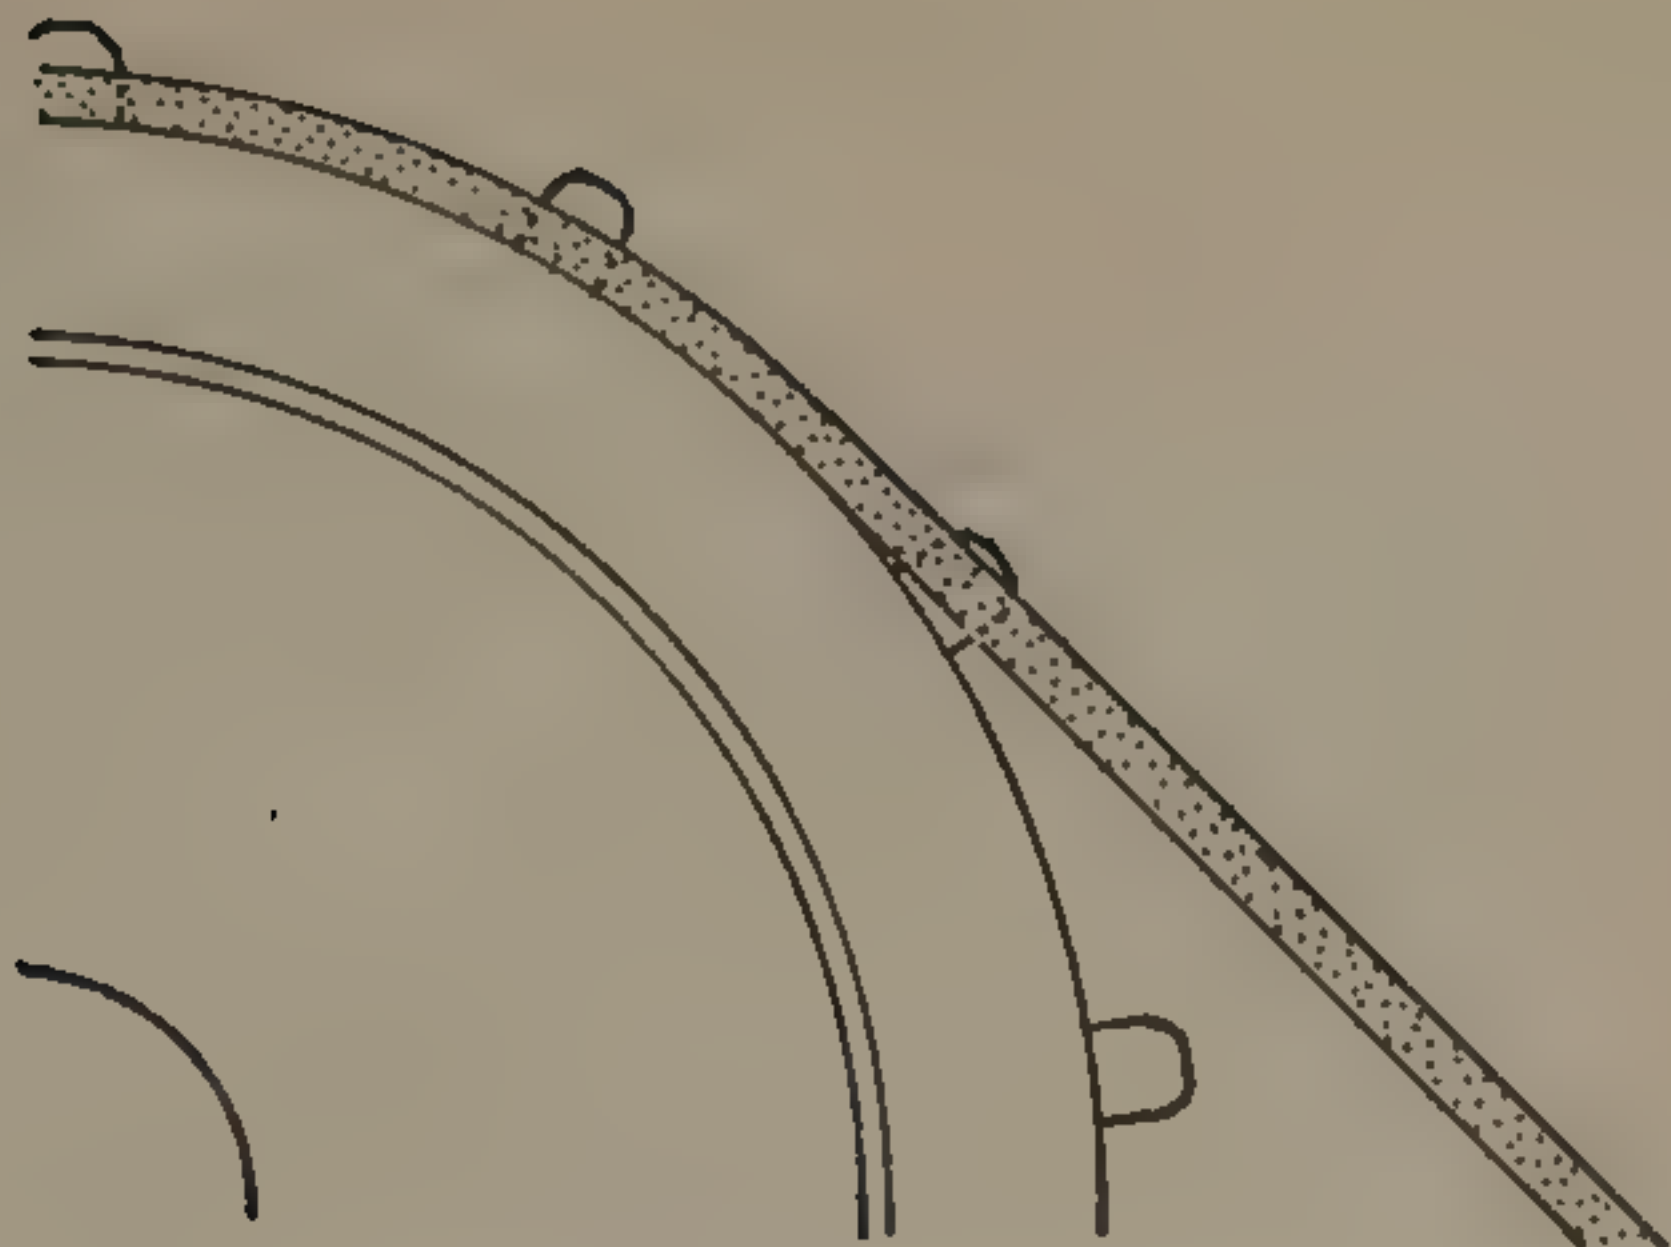

Fig. 3. Diagram shows the shape of the sprocket teeth which are tapered and rounded to avoid damage to the film perforations.
Fig. 3. Rear view of Mitchell NC model. (1) Viewfinder screen; (2) focusing tube eyepiece; (3) variable shutter knob; (4) shutter aperture indicator; (5) synchronous motor; (6) viewfinder parallax control; (7) rack-over handle; (8) footage and frame counter; (9) magazine footage dial counter.